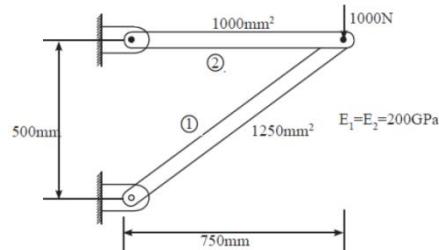

Figure 2
- 4 For the Pin Jointed Configuration shown in below Figure 2. Formulate the stiffness matrix also determine the nodal displacements. 10 CO4 L4